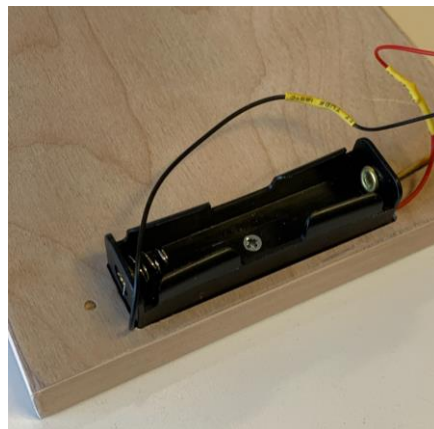

Figure 9. Install the 18650 battery holder
- 1) Using a single screw, install the 18650 Li-Ion battery holder on the CLOQ back as shown in Figure 9. Negative terminal (with the spring) should be oriented to the left.